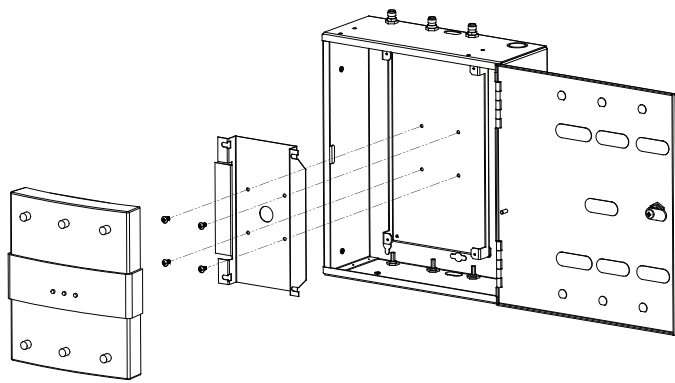

Figure 1.3
- 1.4 Install the bulkhead extender cables as shown in **Figure 1.3**.